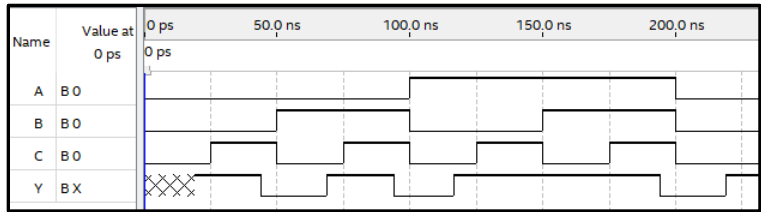

Figure 11: Output of Timing Simulation
4. Unfortunately, Quartus Prime Lite 18.1 does not support timing simulations for the MAX 10 devices that we will be using this semester. This may change in the future versions of Quartus Prime Lite. Because of this, you can only perform functional simulations for the MAX 10. But Quartus Prime Lite **does** support timing simulations for all of the MAX V parts. Therefore, you **can** and should perform the timing simulation below using any MAX V part in items 5-7 below.
6. Zoom in on the window. You should see something similar to Figure 11.